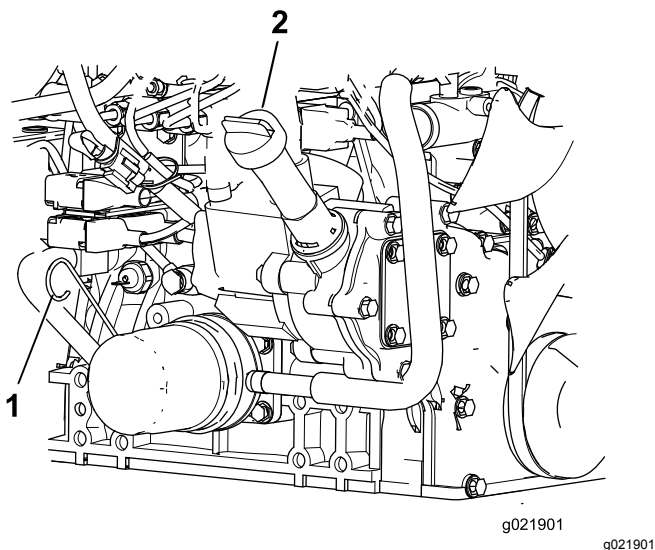

Figure 74
3. Remove the dipstick, wipe it clean, install the dipstick into the tube, and pull it out again. The oil level should be between the FULL and ADD marks (Figure 74).
4. If the oil level is low, remove the fill cap and add oil until it is between the FULL and ADD marks (Figure 74).